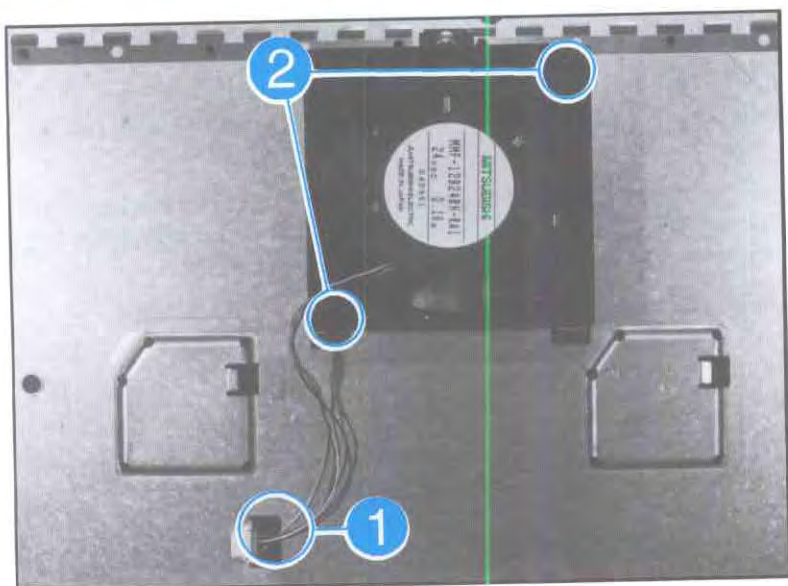

Figure 6-13. Fan FM3
3. Pull the bottom of the cover outward and lift up to remove. When part way out, unplug the fan connector (FM3) (see Figure 6-13, callout 1).
1. Plug in the fan FM3 (see Figure 6-13, callout 1).
7. Install the remaining screws and tighten all (8) screws.
3. Unclip the connector to Fan FM3 (see Figure 6-13, callout 1).
5. Remove the (2) screws securing the fan motor and remove the fan FM3 (see Figure 6-13, callout 2).